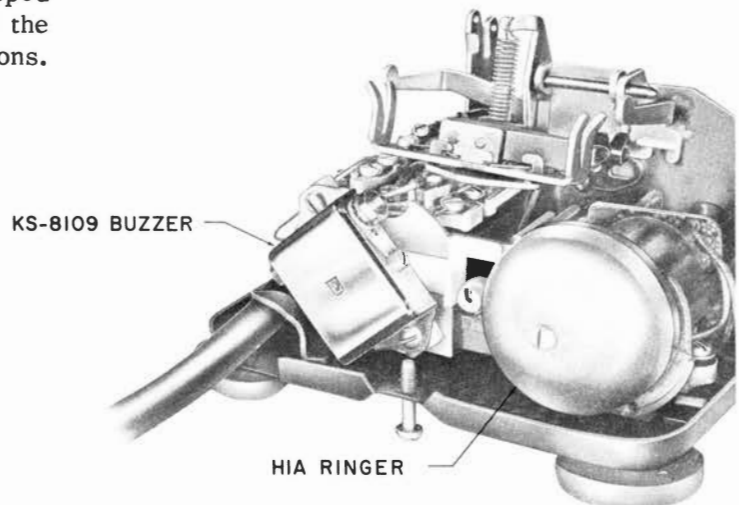

Fig. 6 - Location of KS-8109 Buzzer Ringer
2.16 A bracket is provided on the H1 ringer to mount a KS-8109 buzzer (Fig. 6).